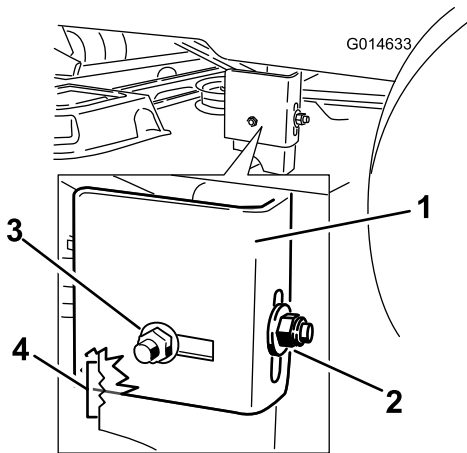

Figure 51
- Loosen the rear locking nut on the hanger bracket just enough to move the bracket (Figure 51).
- Stop the deck at the adjusted position and tighten the rear locking nut on the hanger bracket to hold the new position (Figure 51). Tighten the side locking nut on the hanger bracket.